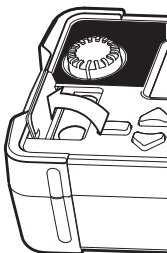

Fig. 14-1
- (1) Ensure that the special application “KEW Report” has been installed in your PC.
- (2) Disconnect the test leads from the instrument.
- (3) Connect MODEL8212 USB to the USB port of the PC.
- (4) Open the cover for optical adapter and connect MODEL8212USB. Please see Fig. 14-1 and 14-2 shown below.
- (5) Power on the instrument. You can set the function switch to any position.
- (6) Start “KEW Report” on your PC and click “Download” to start data download. For further detail, please refer to the instruction manual for MODEL8212 USB or HELP for KEW Report.